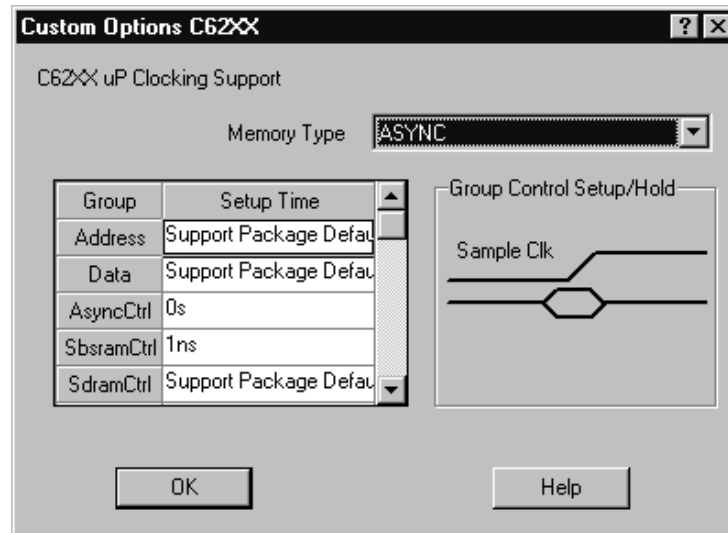

Figure 2–11: C6201 Custom options C6201 dialog box
- Click the Trigger icon in the System window. The Trigger: C62XX dialog box appears with a predefined trigger. Figure 2–12 shows the setup to trigger.